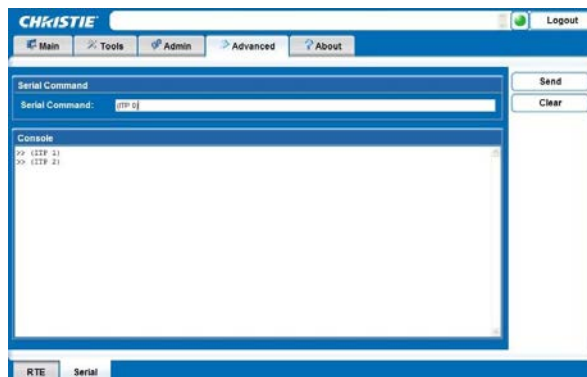

FIGURE 4-22 ADD SERIAL COMMAND
2. Click Send to add the serial command. See Figure 4-22.